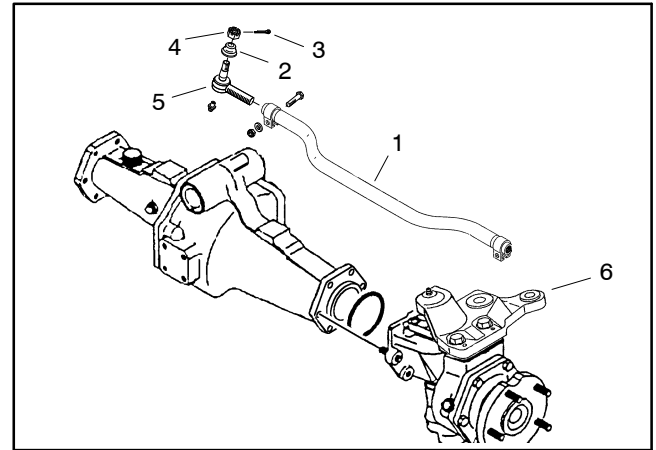

Figure 10
11. If required, remove tie rod ends from steering arms on rear axle (Fig. 10). Remove the cotter pins and castle nuts from the tie rod ball joints. Use a ball joint fork and remove the tie rod ends from the axle steering arms.
2. If removed, install the tie rod to rear axle (Fig. 10). Tighten ball joint castle nuts and install new cotter pins.